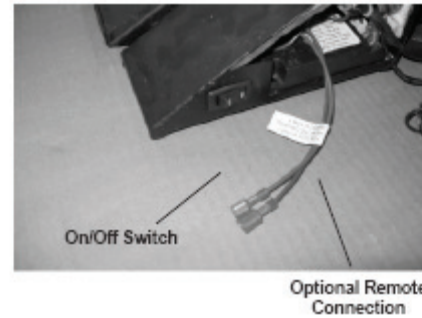

Figure 3A Control Box for IPI
- An On/Off switch is provided as part of the assembly. It is located on the front right side of the burner assembly as shown in Figure 3A.
- Optional remote control system can be incorporated with this system by connecting the remote system to the connection wires shown in Figure 3A.